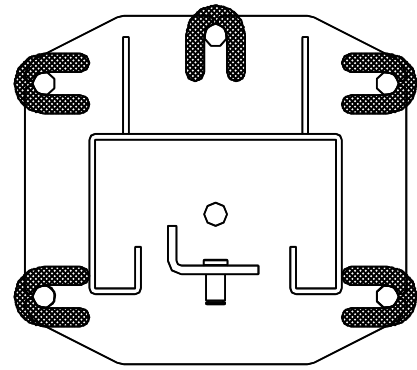

Fig. 3 – Column Shimming
- 10) Shim both columns to plumb using the shims provided as shown in **Fig. 3**. DO NOT shim more than 1/2" at any given point. Use a level no less than 24" in length to plumb columns.
- 15) Check idler column shimming. Use additional shims (**see Fig. 3**) to remove any gaps that may have been created while installing overhead beam. Tighten anchor bolts and re-check column for plumb. Torque to 150 foot-pounds.